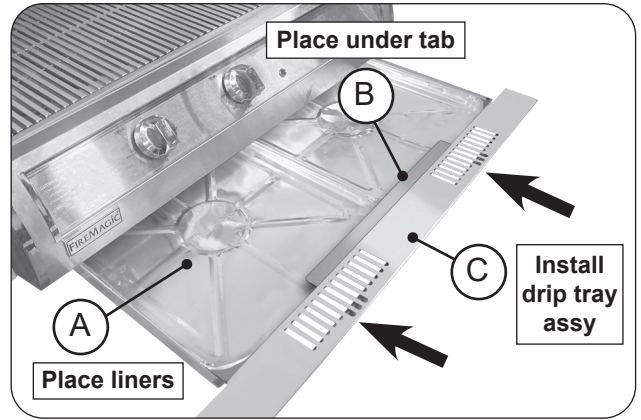

Fig. 29-1 Install drip tray
- Place the liners (Fig. 29-1, A) underneath the tab at the front portion of the drip tray (Fig. 29-1, B)
2. Fully insert the drip tray with liners into the bottom front opening of the electric grill (Fig. 29-1, C).